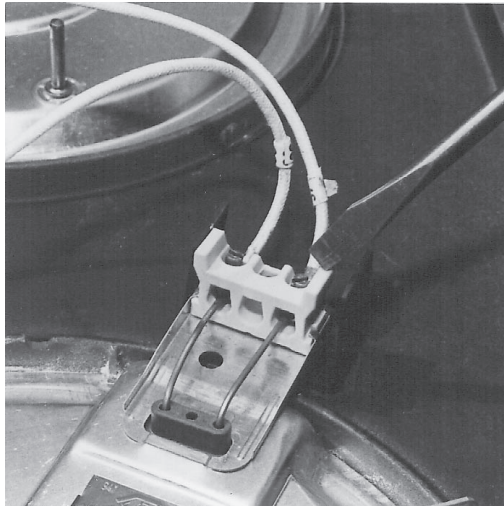

Fig. 22
7. Note and remove (2) wires from the plate receptacle. (Fig. 22)